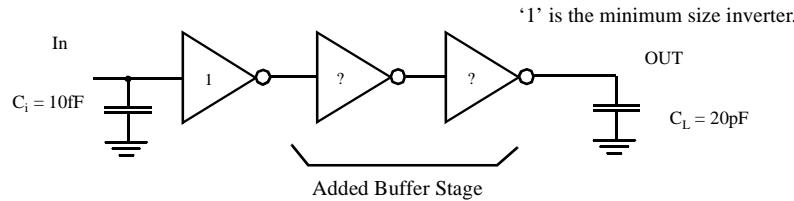

Figure 5.12 Buffer insertion for driving large loads.
- a.** In order to drive a large capacitance ($C_L = 20 \text{ pF}$) from a minimum size gate (with input capacitance $C_i = 10 \text{ fF}$), you decide to introduce a two-staged buffer as shown in Figure 5.12. Assume that the propagation delay of a minimum size inverter is 70 ps. Also assume